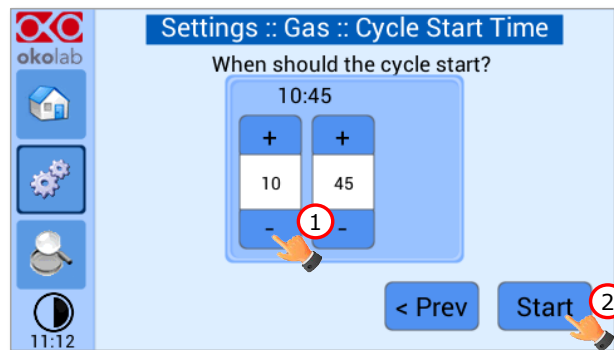

Figure 55. Cycle Start.
5. Schedule the time for the concentration cycle to start (see Figure 55).